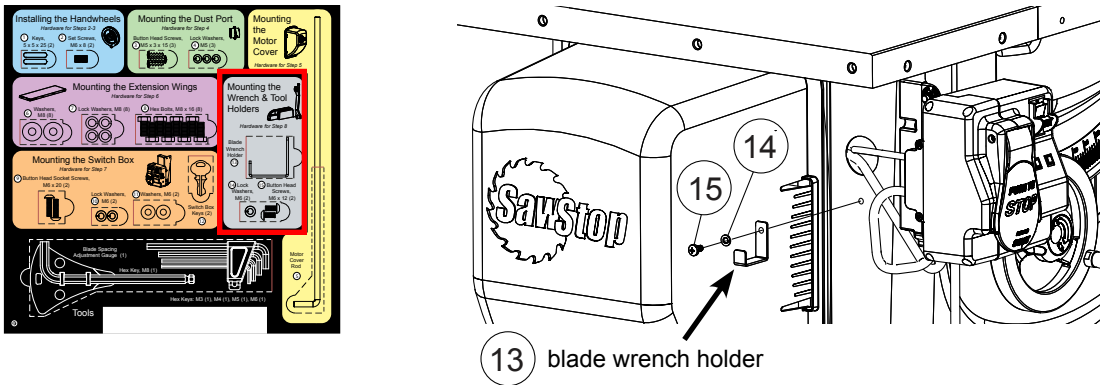

Fig. 30
8. Your saw comes with two tool holders to store saw accessories. The blade wrench holder provides a place to hang the wrenches that came with your saw. The accessory tool holder provides a place to store your riving knife, miter gauge and blade guard. The hardware required to mount the two accessory holders is located in the area with the gray background on the Table Saw Hardware Pack. To mount the blade wrench holder, remove the blade wrench holder, one M6 x 12 button head screw and one M6 lock washer from the Table Saw Hardware Pack. Place the lock washer on the screw, insert the screw through the hole in the blade wrench holder and then thread the screw into the hole on the left side of the cabinet behind the switch box (see Fig. 30). Tighten the screw with a 4 mm hex key.